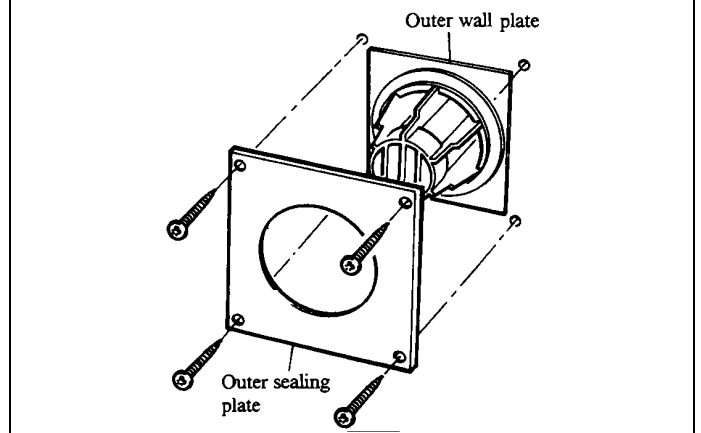

Fig. 12
4. Place the outer sealing plate assembly, supplied with the flue/terminal assembly, over the terminal as shown in Fig. 12 and mark the position of the four fixing holes.